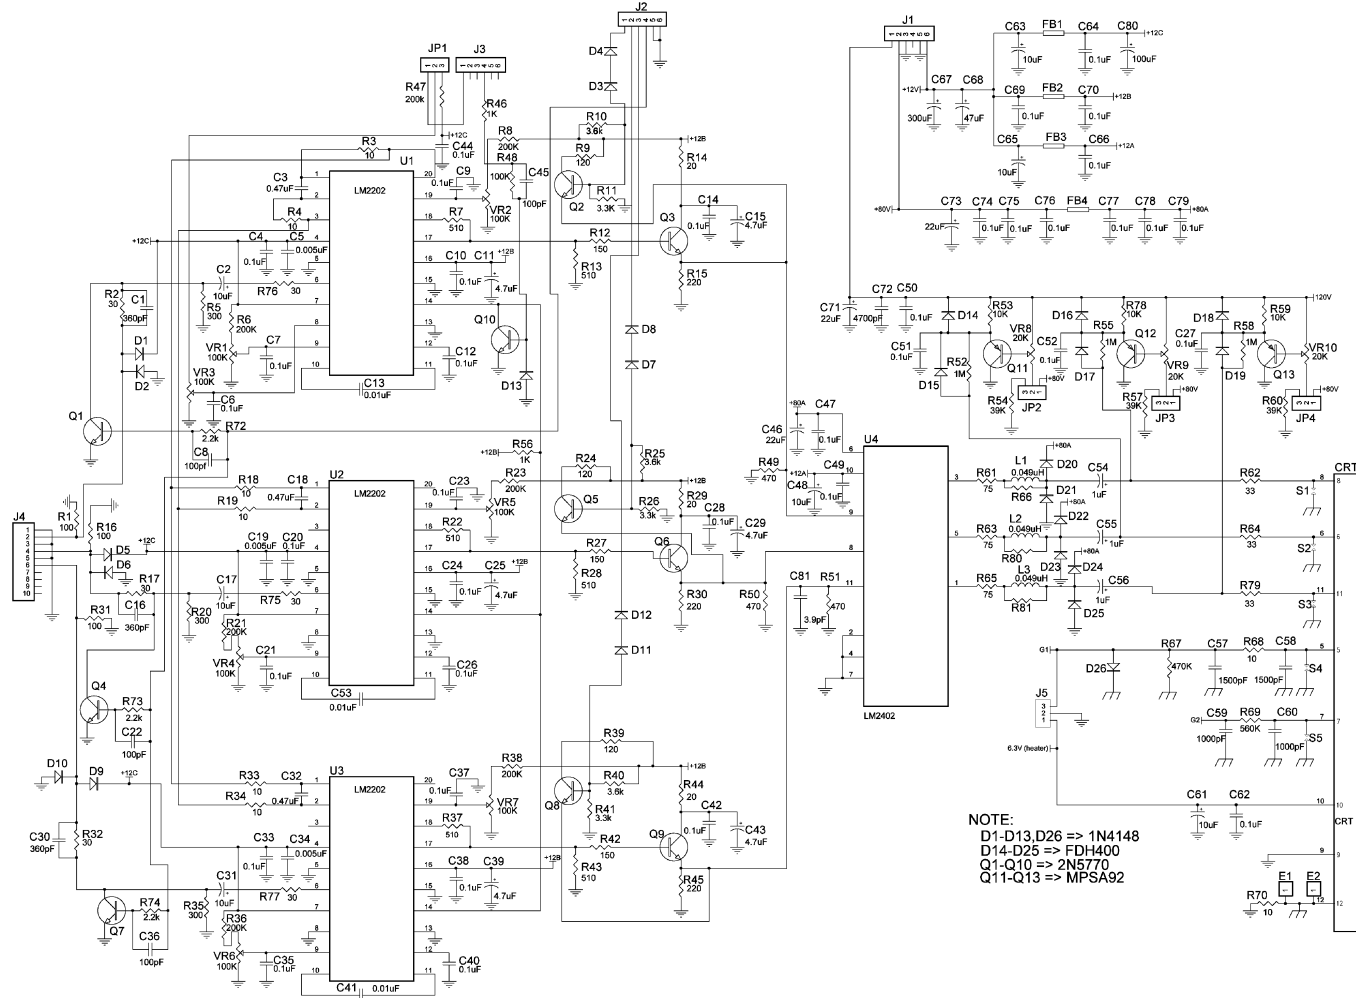
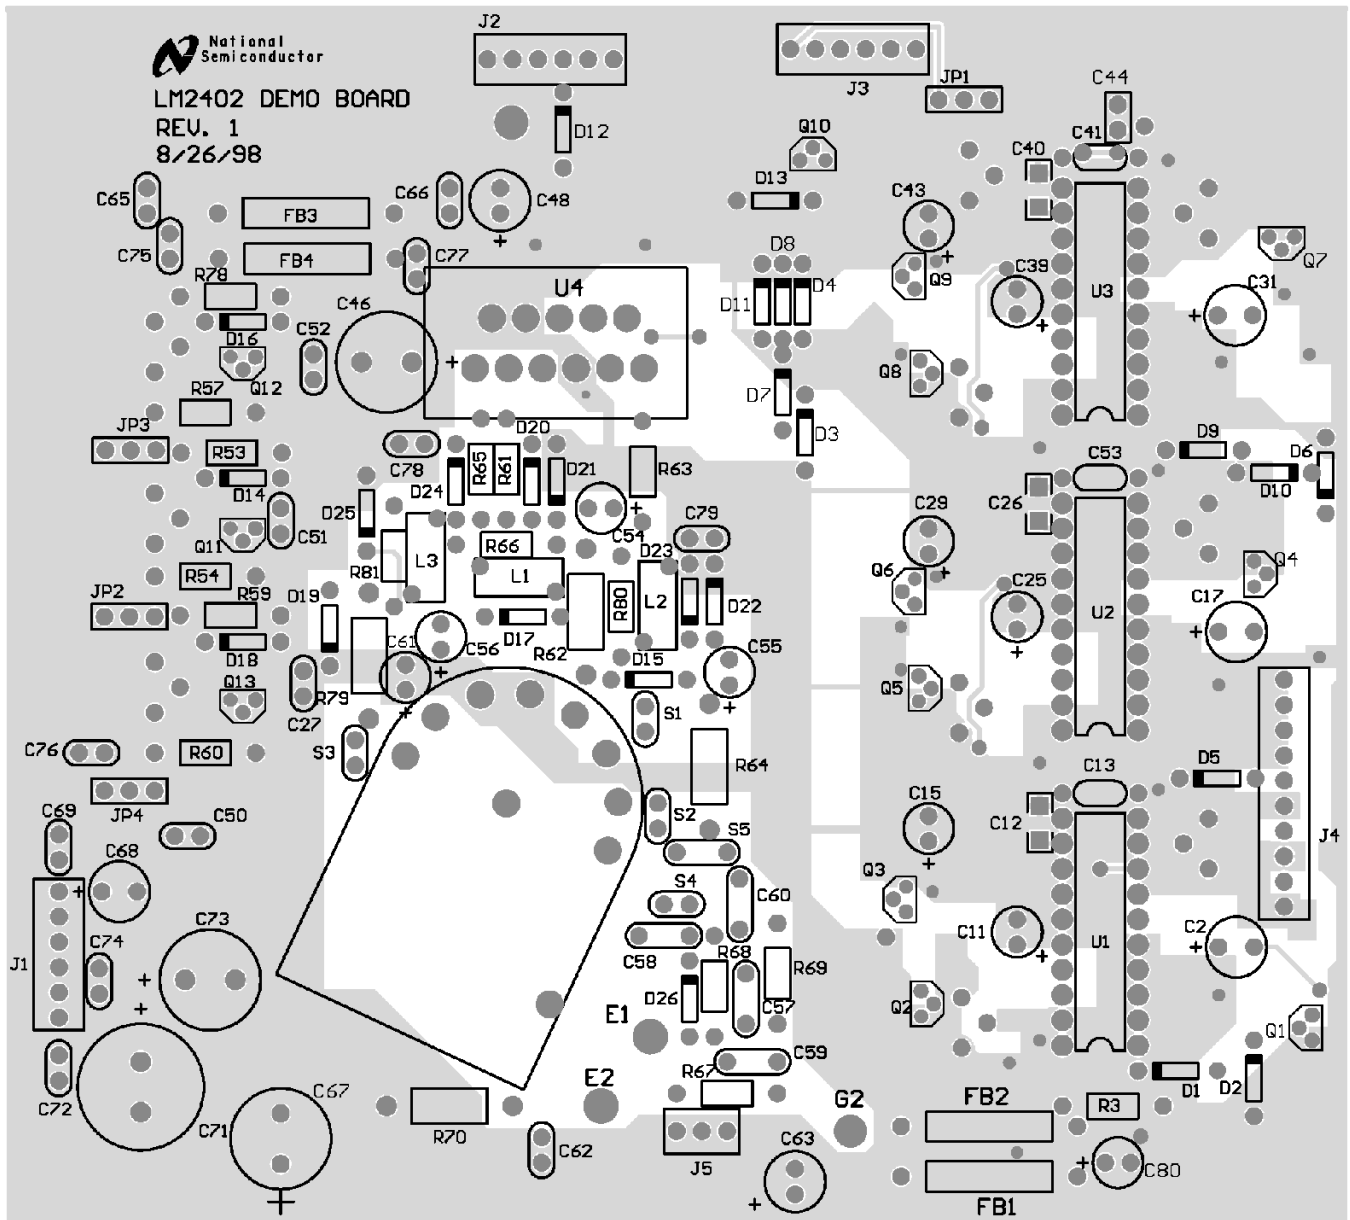
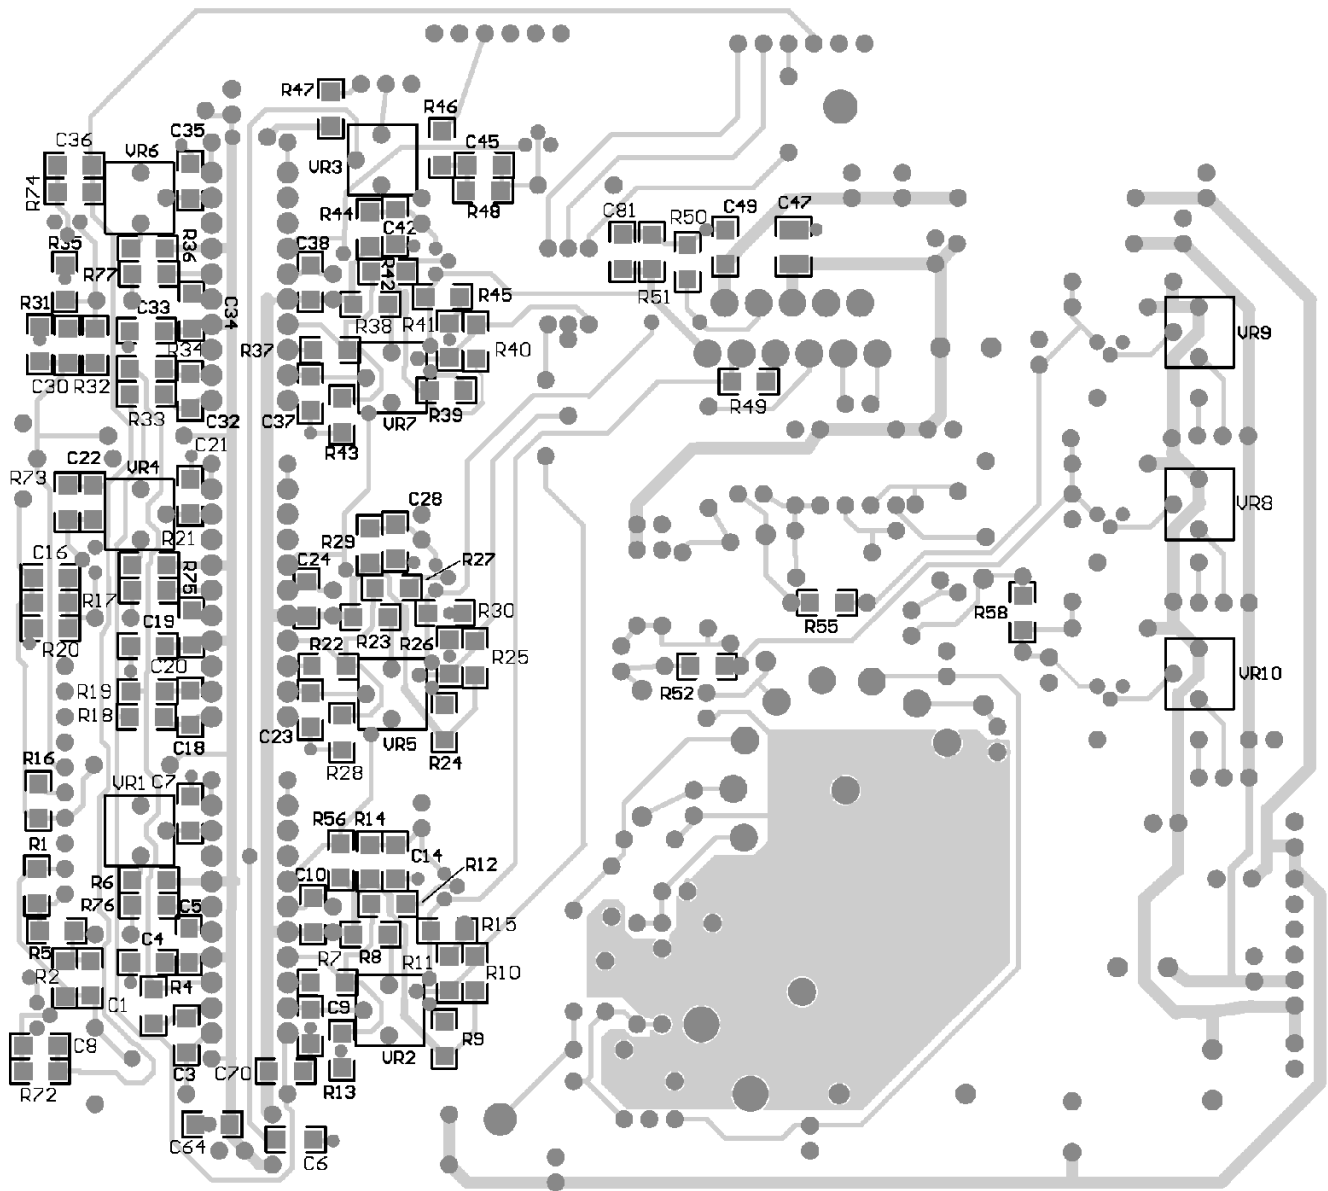

Figure 11. Demo Board Schematic
Figure 12. PCB Top Layer
Figure 13. PCB Bottom Layer
A typical application of the LM2402 is shown in Figure 11. Used in conjunction with three LM2202s, a complete video channel from monitor input to CRT cathode can be achieved. Performance is excellent for resolutions up to 1600 × 1200 and pixel clock frequencies at 200 MHz. Figure 11 is the schematic for the TI demonstration board that can be used to evaluate the LM2202/2402 combination in a monitor.
Figure 12 and Figure 13 show routing and component placement on the TI LM2202/2402 demonstration board. The schematic of the board is shown in Figure 11. This board provides a good example of a layout that can be used as a guide for future layouts. Note the location of the following components:
- C47 - V_{CC} bypass capacitor, located very close to pin 6 and ground pins. (Figure 13)
- C49 - V_{BB} bypass capacitor, located close to pin 10 and ground. (Figure 13)
- C46 and C77 - V_{CC} bypass capacitors, near LM2402 and V_{CC} clamp diodes. Very important for arc protection. (Figure 12)